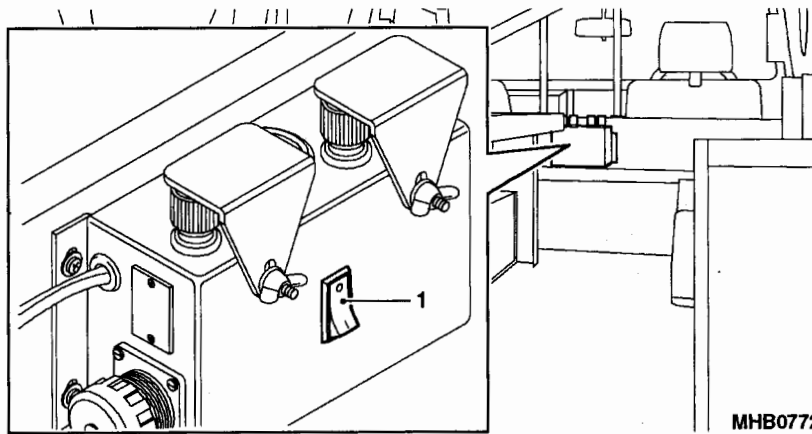

Fig 3 Interior light switch
6 The light switch (Fig 3) is located in the centre of the terminal box mounted on the rear bulkhead. To turn the two interior lights on and off, press the switch (1) as appropriate.